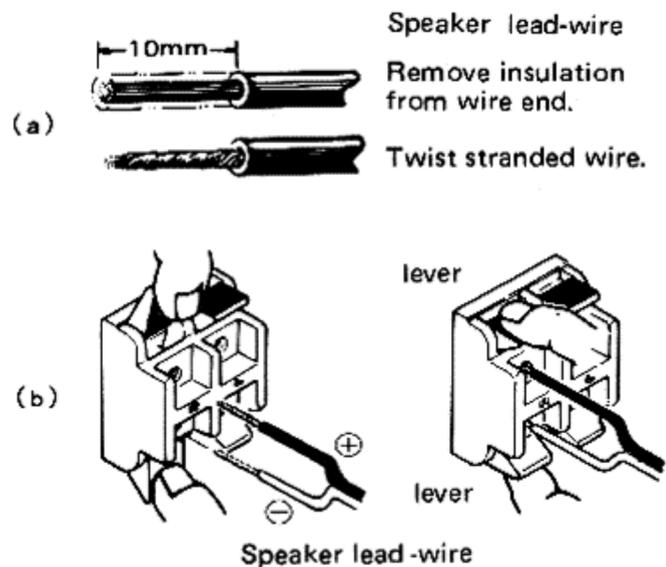

Fig. 3
- As shown in Fig. 3, the upper socket (red) is the positive (+) terminal, and the lower (black) is the negative (-) terminal in each case.
Connecting the leads (see Fig. 3)